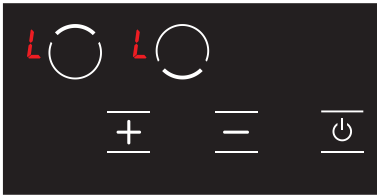

Figure 20
1. The **L** icon is displayed on all displays when the stove is on and the child lock is active. (see Fig. 20) The **L** and **H** icons are displayed alternatively if any hob is hot. You may turn the stove on or off with the **⏻** key only.